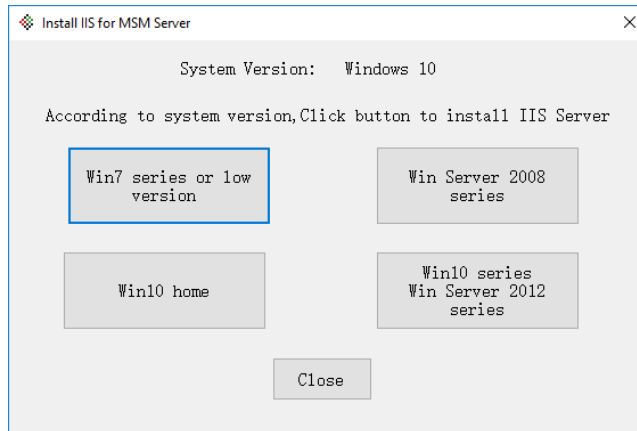

Figure C1
1. When prompted to install IIS, select the proper button for the version of Windows being used. (Figure C1)